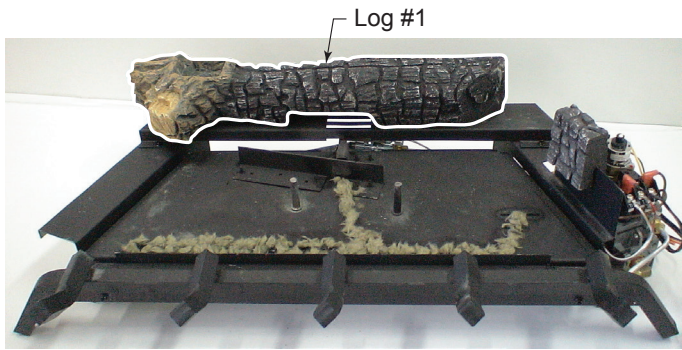

Figure 5.4 - Log #1 Placement
2. Place log #1 over the two pins located on the rear log bracket. Figure 5.4.